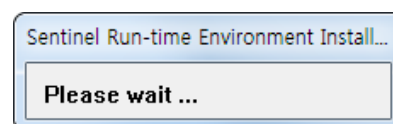

Figure 2.8 Installation of dongle
- Installation status of the Dongle Driver will be displayed as Shown in Figure 2.8